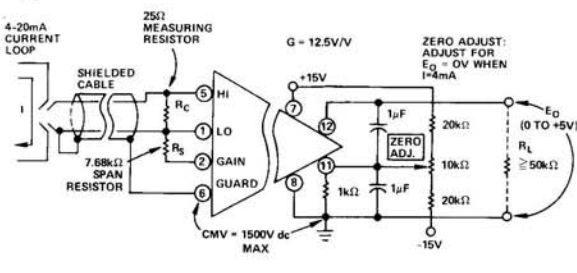

Figure 17. Isolated Analog Interface; 4 to 20mA is Converted to 0 to +5V at the Output, with Up to  $\pm 1500V$  of Isolation
**Current Loop Receiver:** Model 290A and 292A can be applied to measurement of analog quantities transmitted via 4-20mA current loops over substantial distances through harsh environments. Figure 17 shows an application of model 290A or 292A as a current loop receiver. A  $25\Omega$  resistor converts the 4-20mA current input from a remote loop to a 100-500mV differential voltage input, which the isolator amplifies, isolates, and translates to a 0 to +5V output level at local system ground.